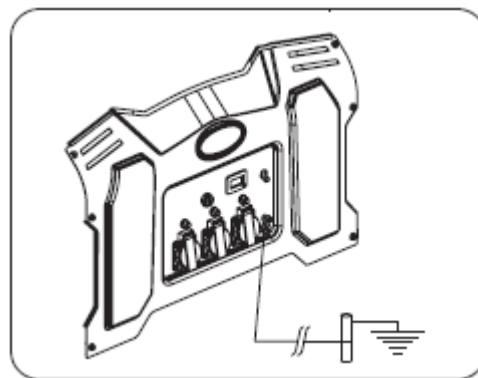

Fig.9
8.1 Grounding the Generator (See Fig.9)